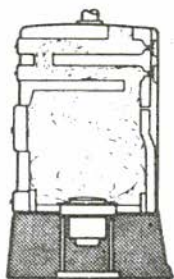

Fig. 5-1. Round cast-iron boiler with wall-flame rotary oil burner.
1. Round ci boilers (Fig. 5-1) consist of a firepot (furnace) section with base, a crown sheet section, one or two intermediate sections, and a